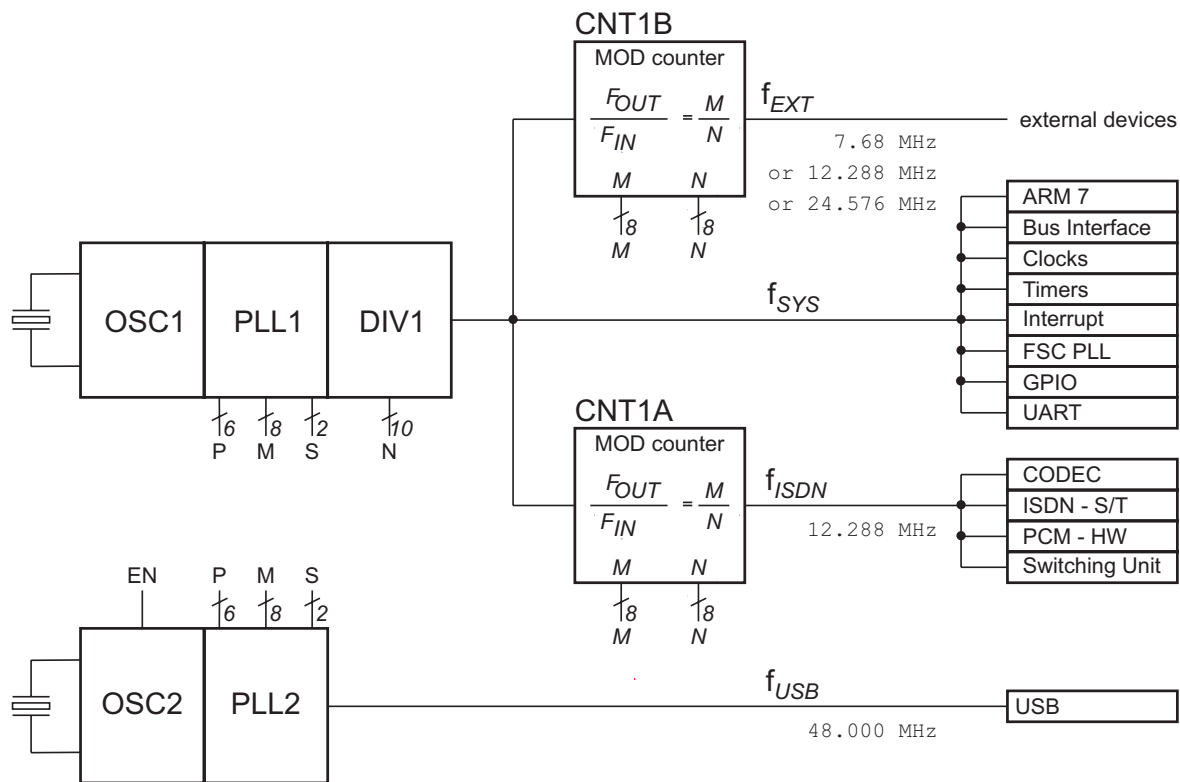

Figure 8: Clock distribution in the HFC-S active
Figure 8 illustrates, how the functional blocks of the HFC-S active clock distribution work together. As the crystal frequencies are not prescribed, frequency values are only pointed out where they are fixed by specification requirements.
Programmable system clock f_{sys} : The crystal which is connected to the OSC 1 block is used as a reference for the programmable frequency of the ARM7TM CPU and some other subsystems like shown in figure 8. By using the PLL 1 and the divider DIV 1, the input frequency can be
12.288 MHz clock for ISDN related peripheral modules: Some peripheral modules of the HFC-S active like shown in figure 8 have to operate at a fixed frequency $f_{ISDN} = 12.288$ MHz due to fixed data rate requirements. In order to allow interfacing to the ARM7TM CPU, the clock skew between f_{ISDN} and the ARM7TM clock f_{sys} has to be nearly zero. As the clock phase of the PLL output relative to the PLL input is uncontrollable, the original crystal frequency cannot be used to derive a clock signal for these modules.